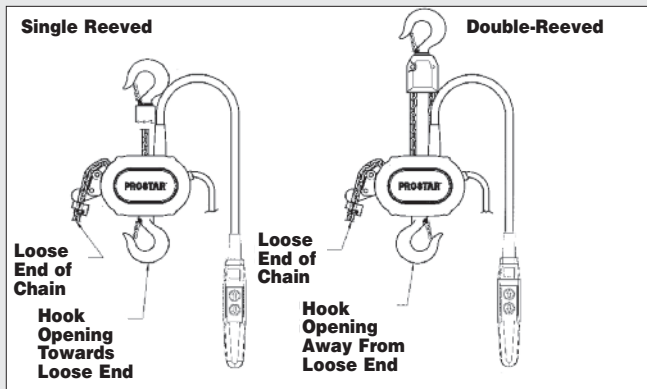

Figure 13A
10. Properly install the upper hook as shown in Figure 13A, then slide the hook retainer (620-139) into the cavity on top of the hoist and secure it using hook retainer screw (620-140). Tighten screw to a seating torque of 10 in. lbs. (1.1 NM).
Upper Hook (see figure 13A & 13B for installation instructions)